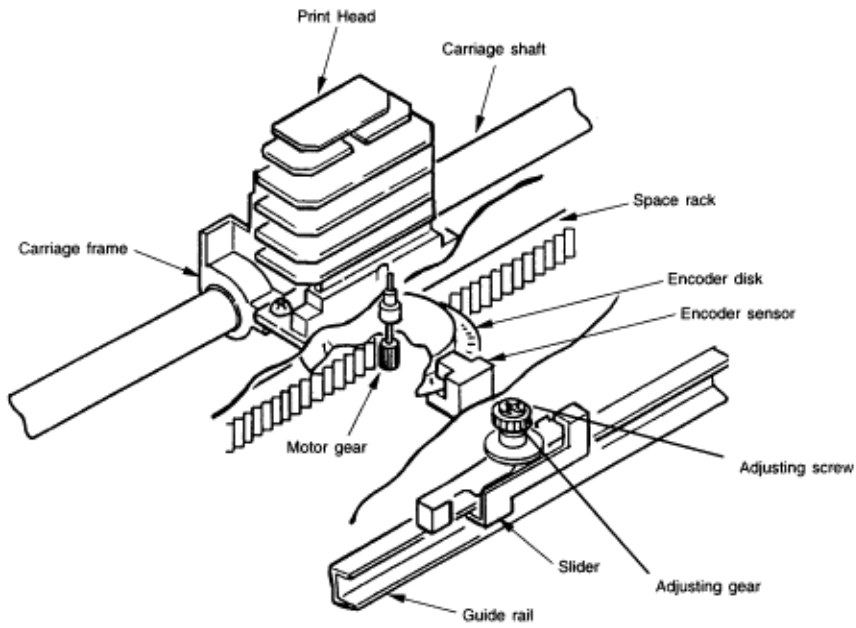

Figure 2-4
2.2.2 Spacing Operation (See Figure 2-4 below).